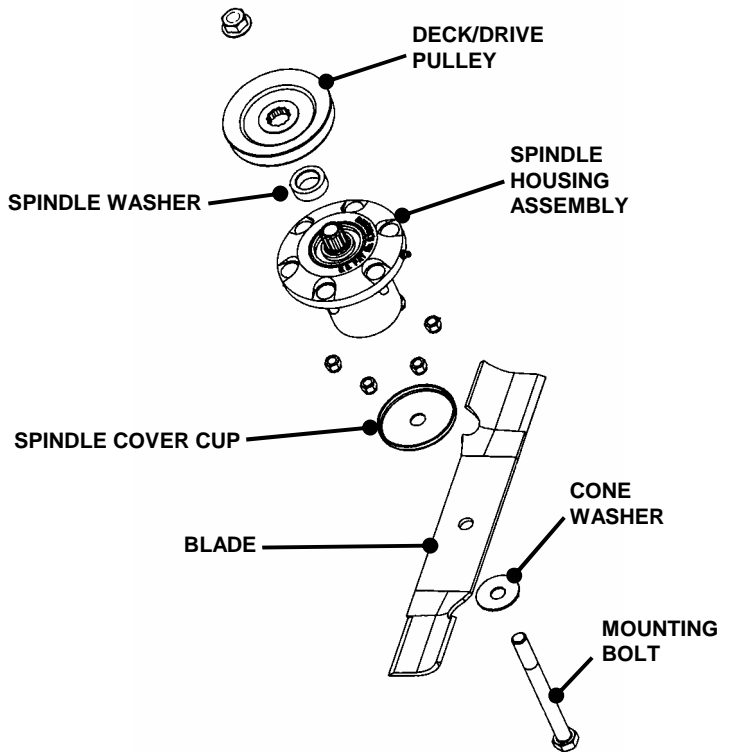

FIGURE 4.17
5. Remove blade mounting nut and cone washer from each blade. See Figure 4.17.